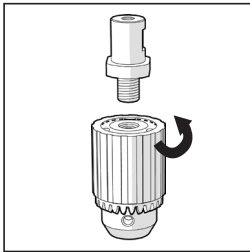

Fig. 10
- Screw the 3 jawed chuck into the threaded bore of the chuck adaptor. (Fig. 10)